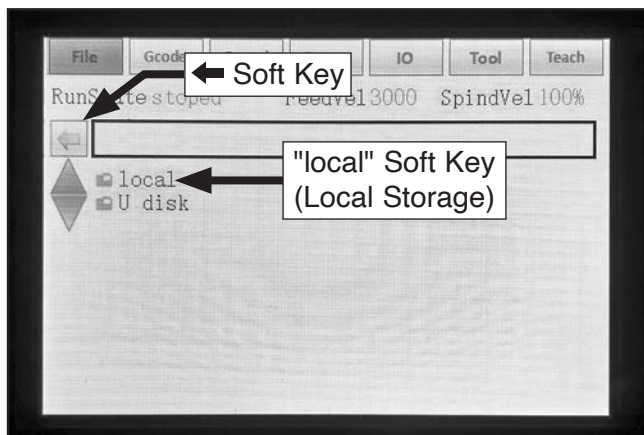

Figure 57. Location of local storage in file screen.
3. Navigate to **←** soft key and press "Enter" button to return to file screen (see **Figure 57**).
4. Scroll down to "local" soft key (see **Figure 57**) and press "Enter" button.